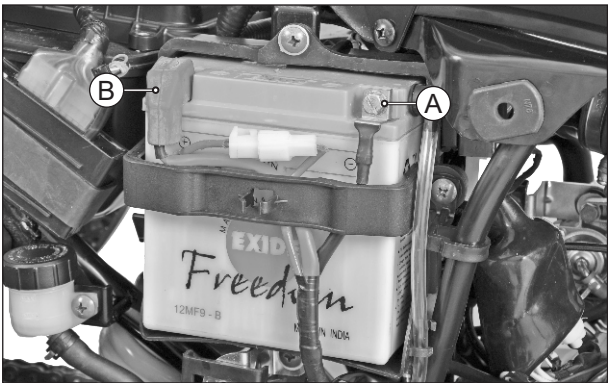

Fig. 5.63
- Disconnect the battery's negative terminal (A) first and then positive terminal (B). (Fig. 5.63)